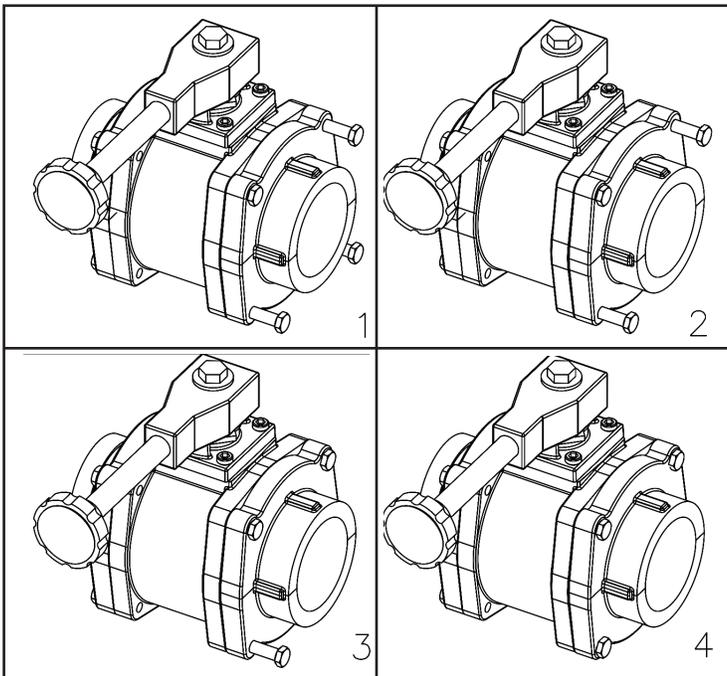

Figure 2
B) Tighten the four 3/8" adapter bolts in an X pattern (see Figure 2). See Table 2 for torque requirements.